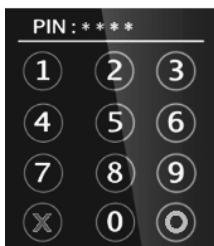

Figure 5
After inserting the chip card, press the numeric keys of virtual keypad (**Figure 5, as reference**) shown on the display to enter the password. Press Cancel(X) key to terminate any current function and press the Enter(O) key to confirm a value or an option.